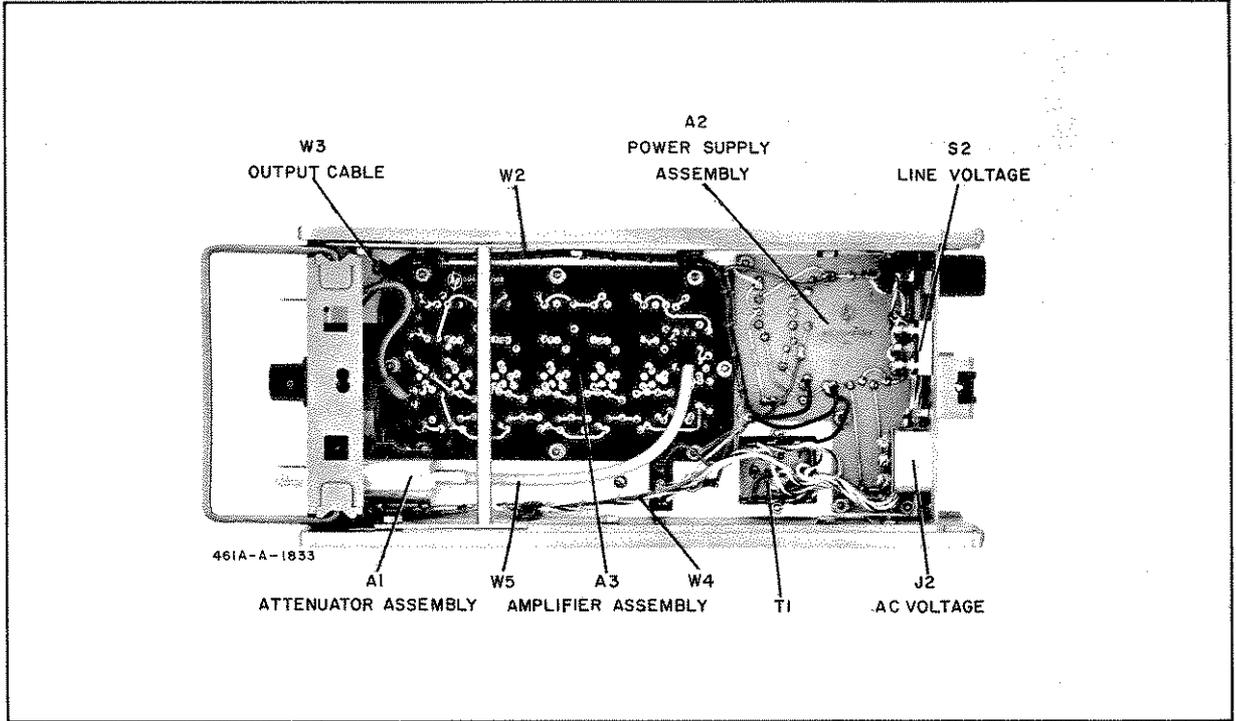

Figure 5-10. Bottom View
- c. Connect common lead of DC Voltmeter (-hp- Model 412A) to -hp- Model 461A chassis ground and VOLTS probe to terminal No. 6 of Transformer T1 (red wire). Refer to Figure 5-10.